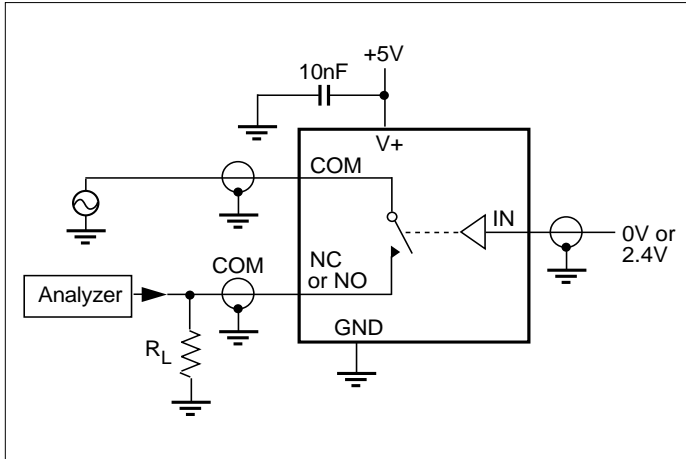

Figure 5. Off Isolation
7. Off Isolation = 20log10 [VCOM / (VNC or VNO)]. See Figure 5.